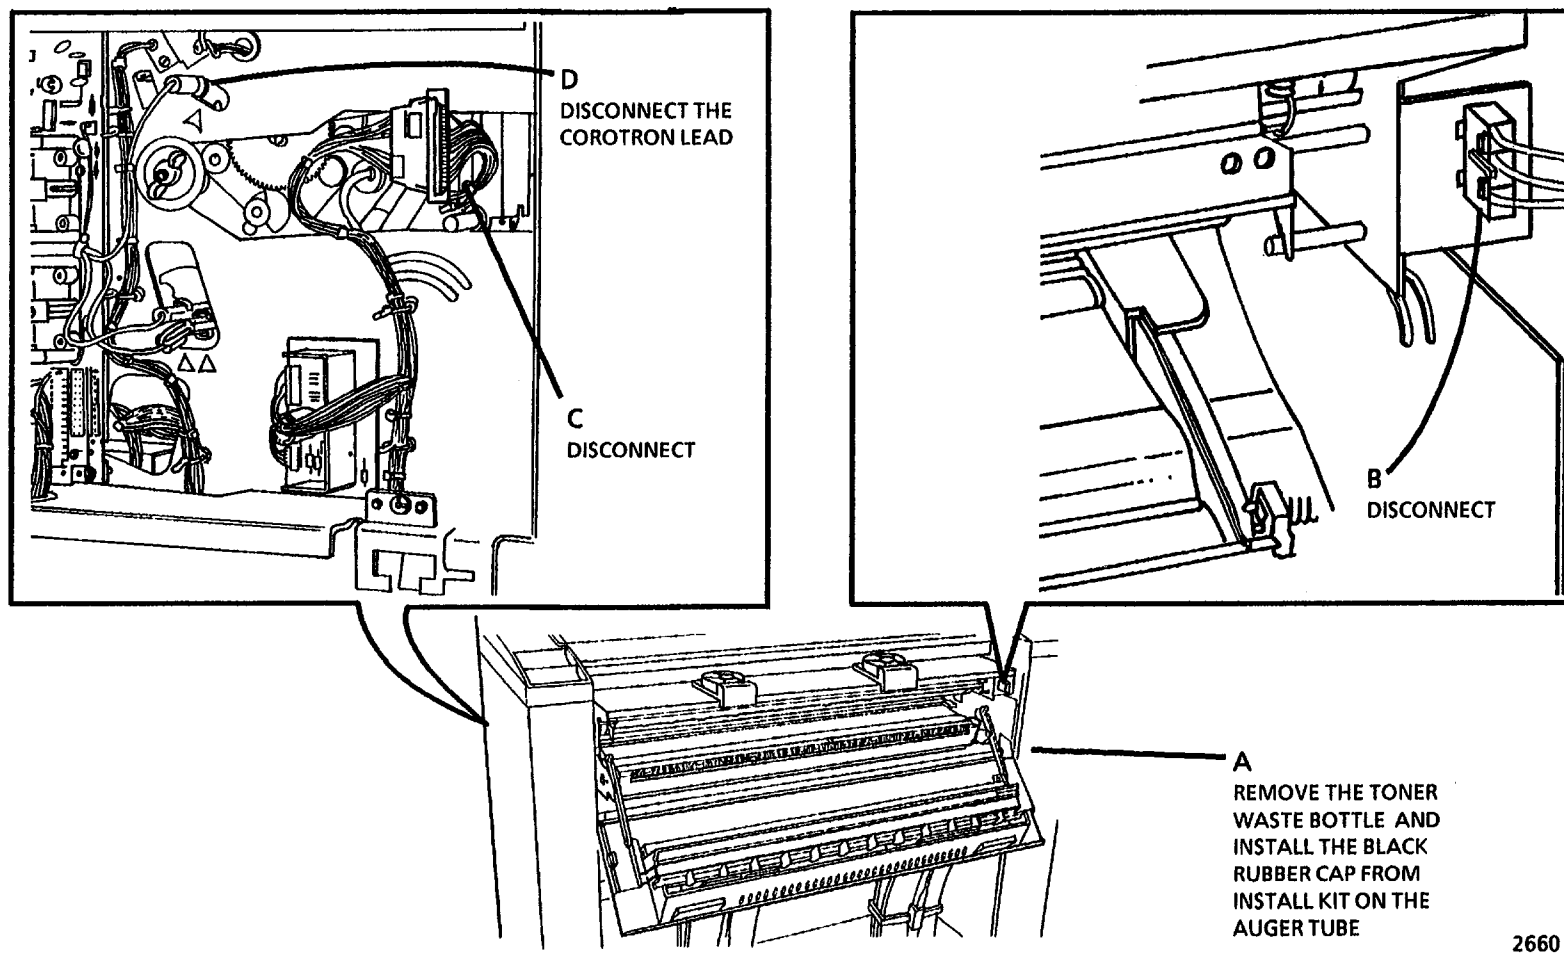

Figure 19. Prepare to Remove the Xerographic Module
21. (Figure 19): Prepare to Remove the Xerographic Module.